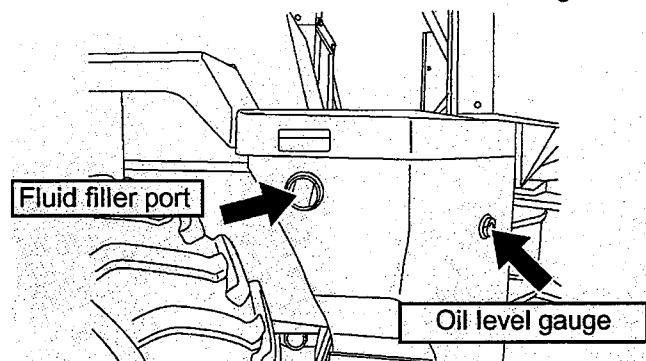

Fig78-21:
12. Fig78-21: Fill the hydraulic fluid tank (0010) with the specified amount of hydraulic fluid. Refer to "Level Check and Addition of Fluid in Hydraulic Fluid Tank."